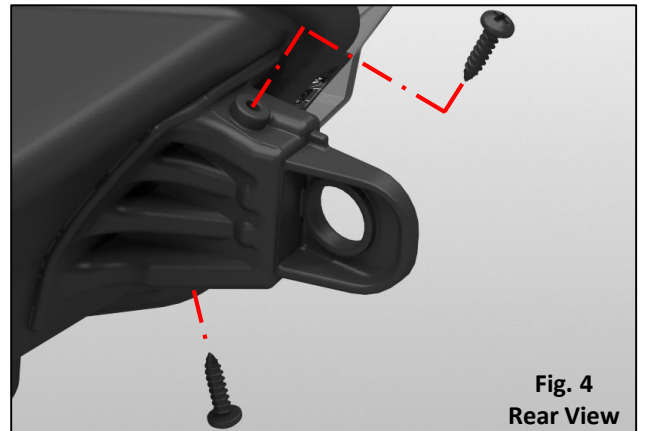

Fig. 4
4. Install: Install the prepared tab(s) ensuring a flush fit to the housing **Fig. 4**. Next, drive the 5/8" screws at the locations marked (A), while holding parts firmly together. **APPLY GLUE TO SCREW THREADS BEFORE DRIVING.** Do not overtighten screws. Allow the glue to cure for approximately 30 minutes before installing the repaired headlight on the vehicle.